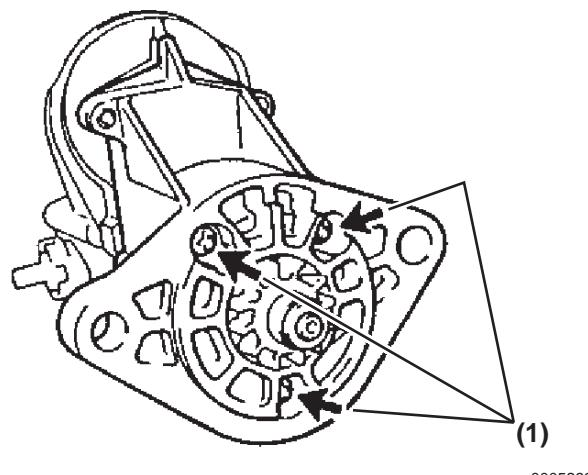
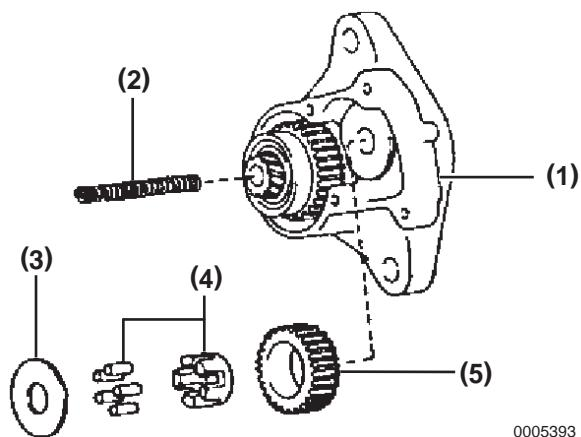

Figure 10-5
Figure 10-6
4. Remove the 3 screws (Figure 10-5, (1)) from the starter housing and then remove the starter housing and clutch assembly, return spring, plate washer, bearing and idler gear from the magnetic switch assembly (Figure 10-6).